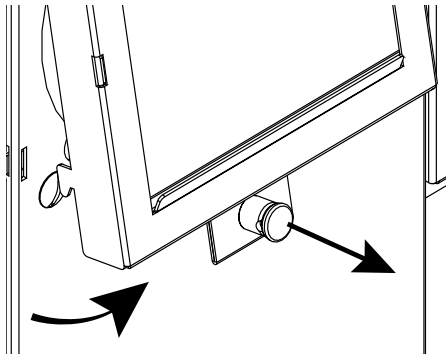

Figure 3. Fan Baffle Removal
3. Locate the Fan Baffle on the rear of the toaster. Pull the pin out and tilt the baffle up and away from the toaster to remove. (See Figure 3)